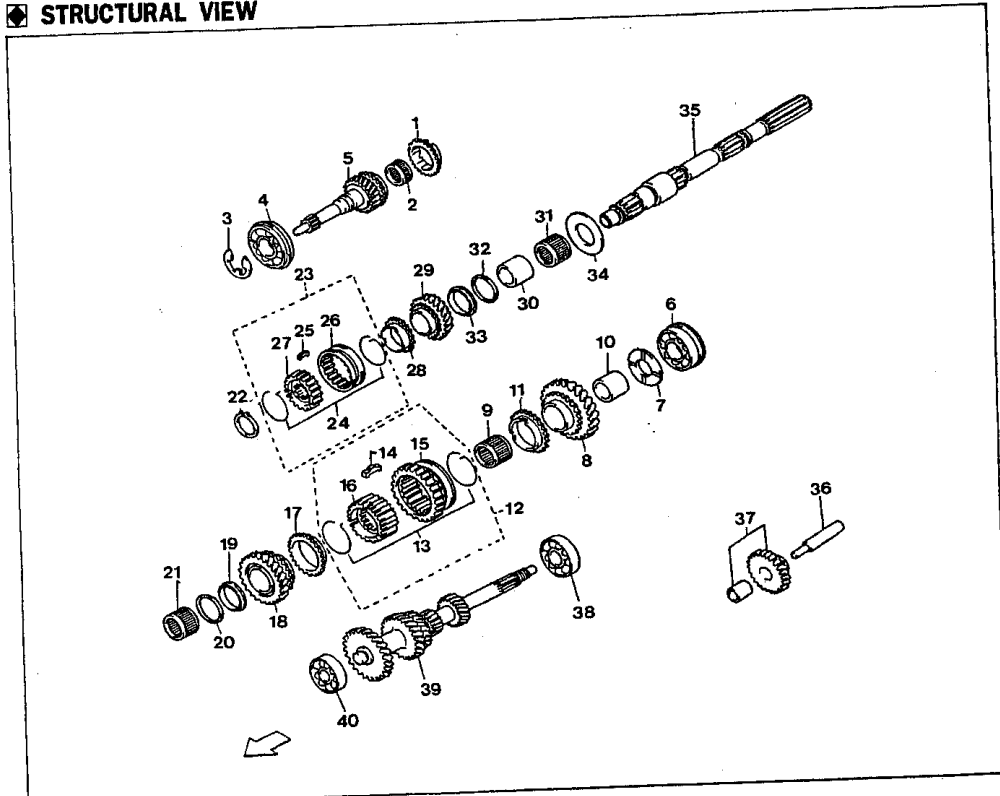

Fig. 7-59
Remove the input shaft S/A(No. 3 to 5 in Fig.7-59), using the following SST, given below.
1. After removing the No. 3 to 5 in Fig. 7-59, remove the synchronizer ring from the case.
12. Remove the No. 13 to 16 in Fig. 7-59 as a set.
23. Remove the No. 24 to 27 in Fig. 7-59 as a set.